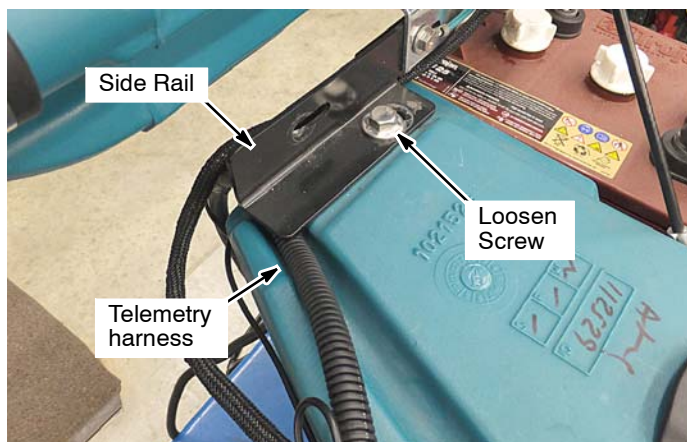

FIG. 9
8. Loosen the screw securing the rear portion of the left side rail to the solution tank. With assistance, slightly lift the recovery tank assembly and remove the telemetry harness from underneath rail (FIG. 9).